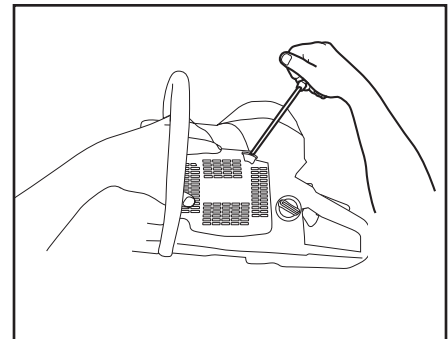

Figure 4
- To reattach the starter housing, first pull the starter cord out, then hold the starter housing against the crankcase (Figure 4). Slowly release the starter cord to enable the pulley to fit between the pawls.